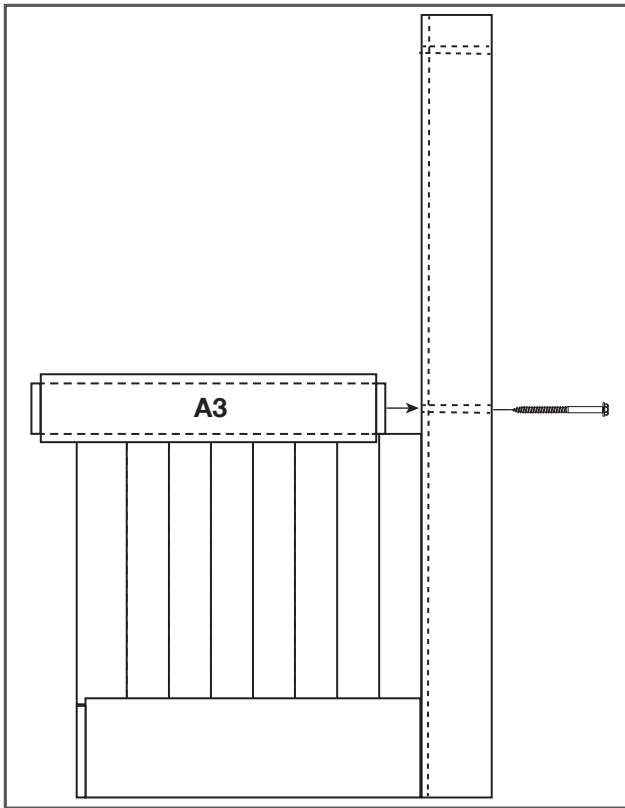

Figure 3
3. Slide the center rail (A3) lower groove over the top of the lower slats. Tap with a rubber mallet into the right side stile. Attach the middle rail to the right stile rail using a socket wrench with a 7/16" socket and one lag screw (D) (Figure 3).